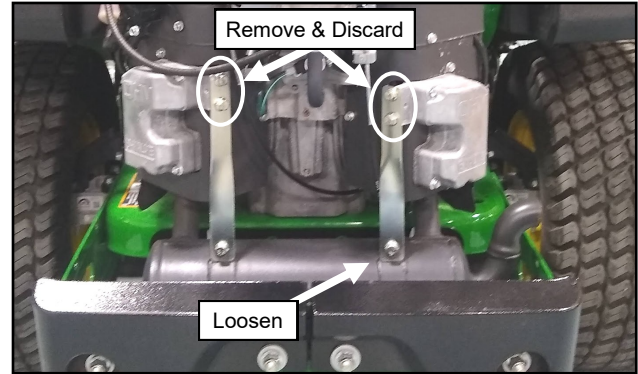

Fig. 1.39 (Muffler Hangers)
- 1.39** Remove and discard the (4) bolts securing the muffler hangers to the rear of the engine block. Loosen the right side hanger to muffler bolt and rotate the hanger down clockwise. See figure 1.39.